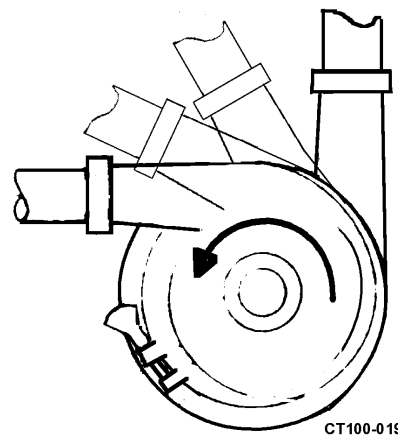
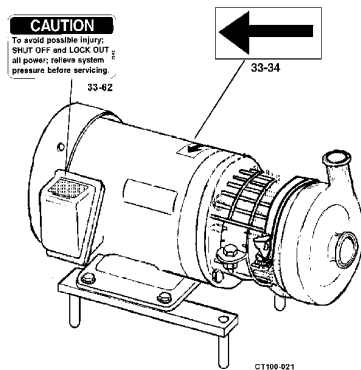

Figure 15 - Recommended Discharge Positions
Figure 19 - Replaceable Label Location
- Check motor nameplate to be sure motor is compatible with electrical supply and all wiring, switches, starters. Make sure all overload protections are correctly sized. (Figure 19).
- Check pump rotation following electrical installation. Correct rotation is counterclockwise when facing pump inlet connection. (Figure 15) and Figure 19.